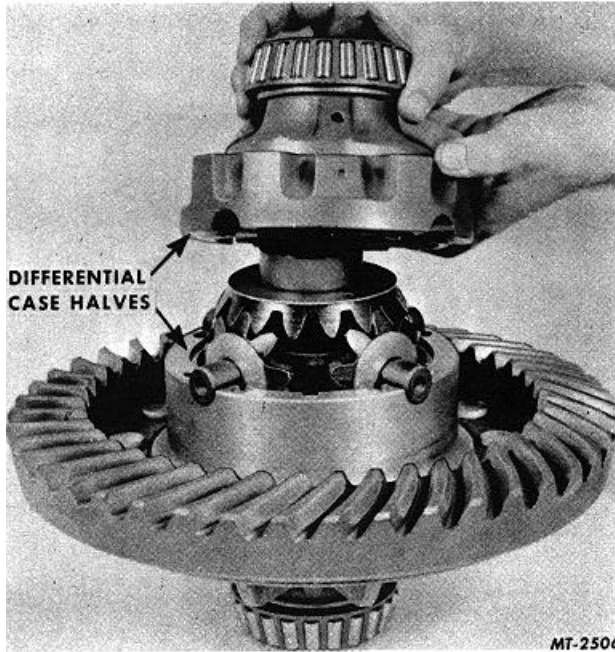

Fig. 13 Separating Differential Case Halves
2. Cut lock wire and remove capscrews or stud nuts to separate case halves, Fig.13.